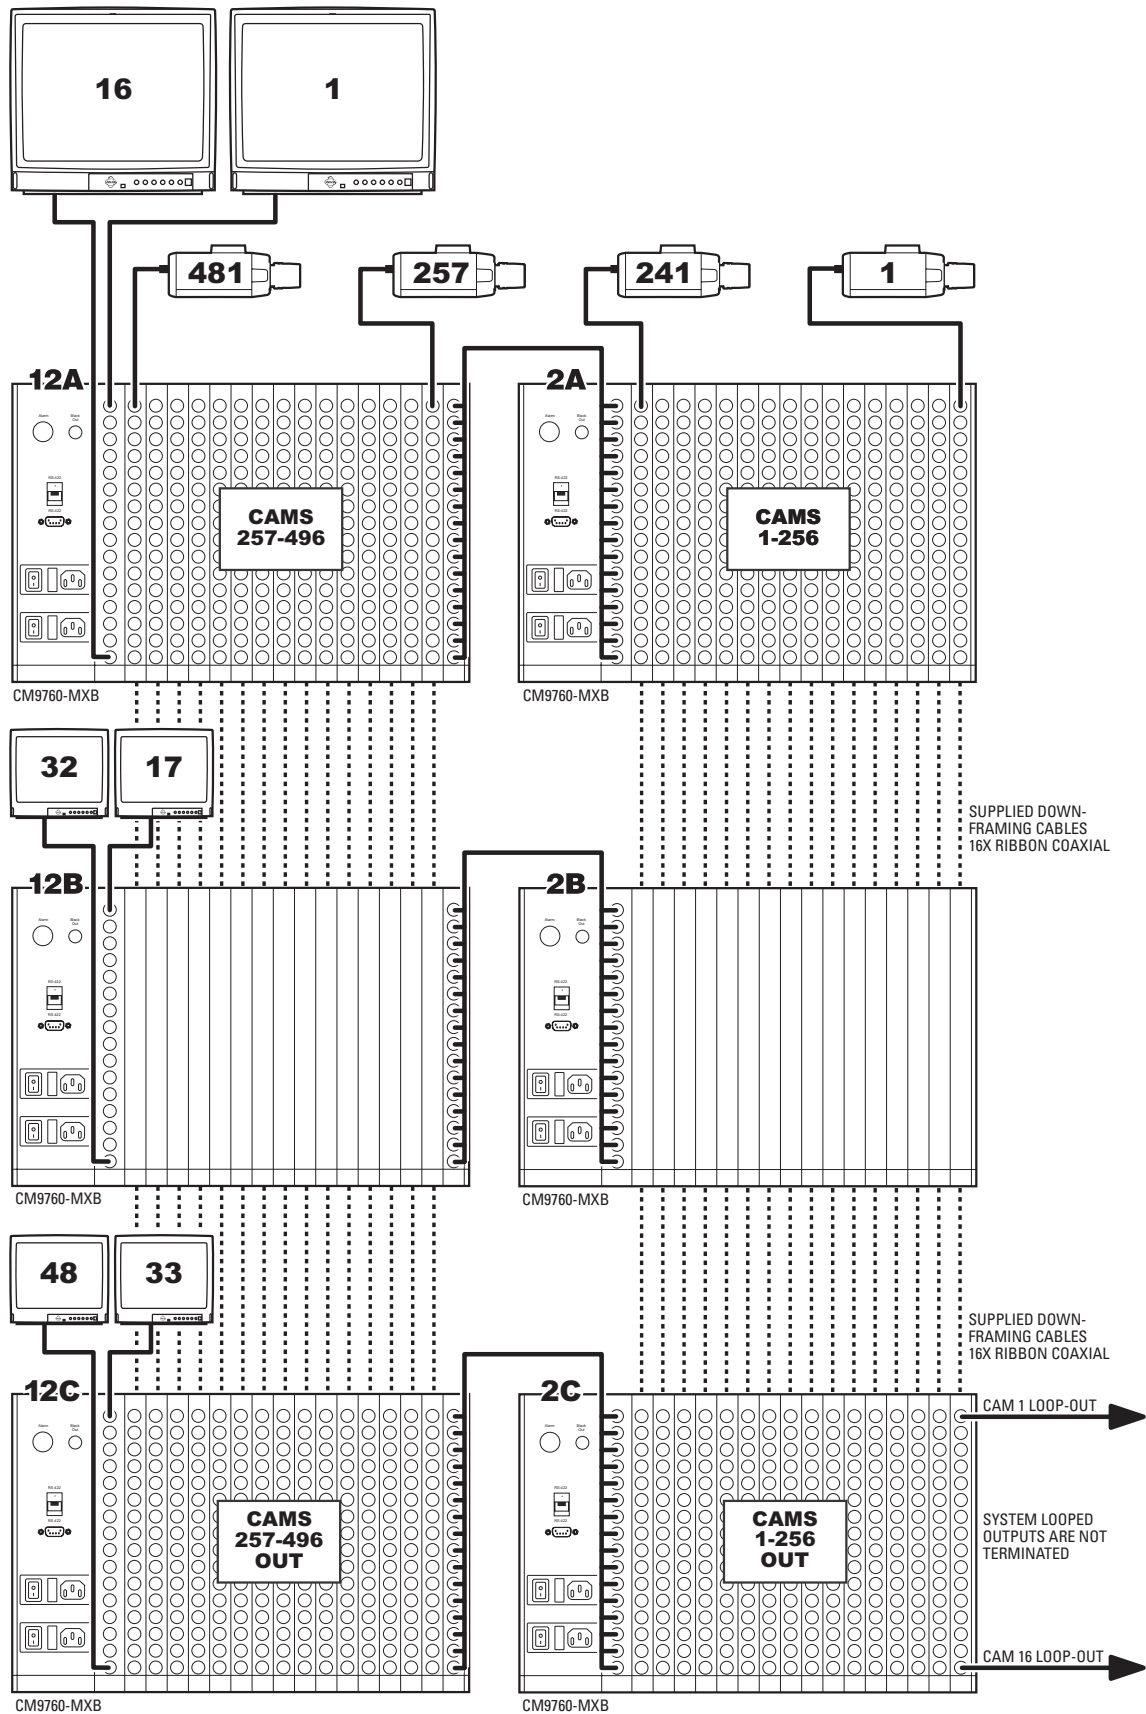

Figure 70. Sideframing and Downframing: 496 x 48 Configuration, Looping
- 496 x 48, looping (refer to Figure 70)